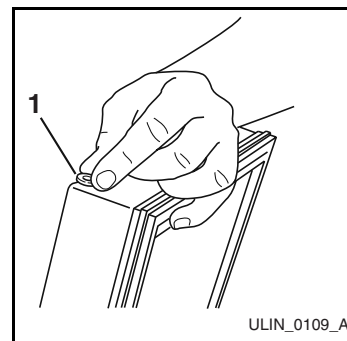

Figure 18
9. Relocate plastic spacer/bushing (**Figure 18**) on bottom of door to the opposite side. Clean out bushing hole in door bottom if necessary.